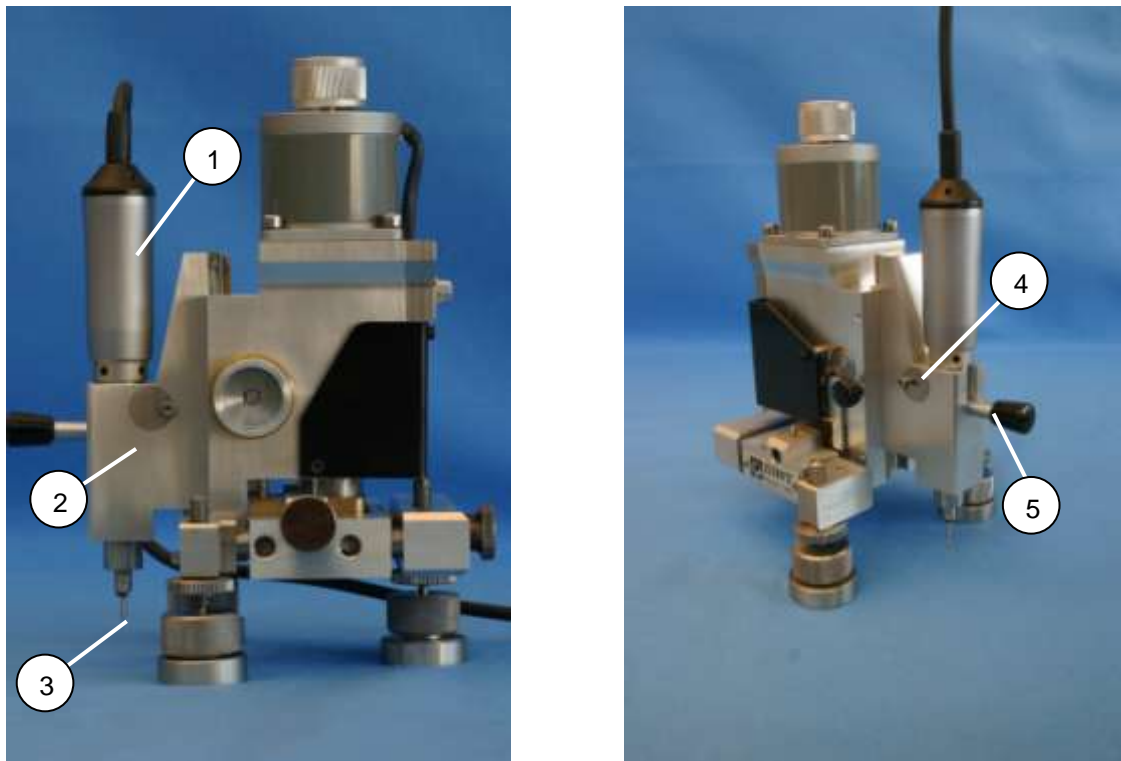

fig 1.1
- Loosen a little bit the screw on the support side with the appropriate (3mm) allen wrench (fig. 1.1, number 4).